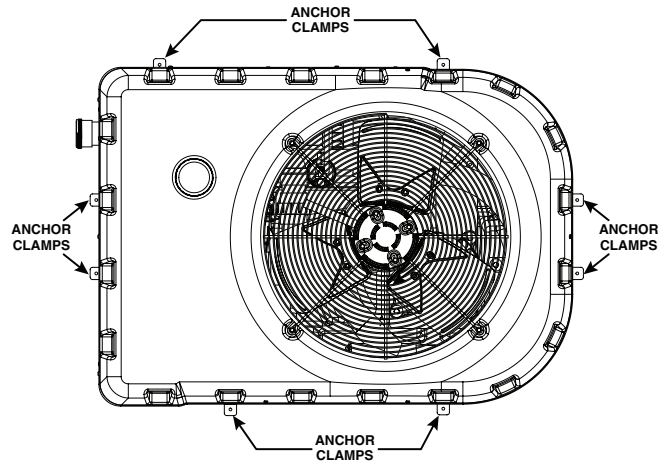

Figure 5: Anchor Clamp Locations
2. Place the clamps at the base of the heater in all eight locations, shown in **Figure 5**.